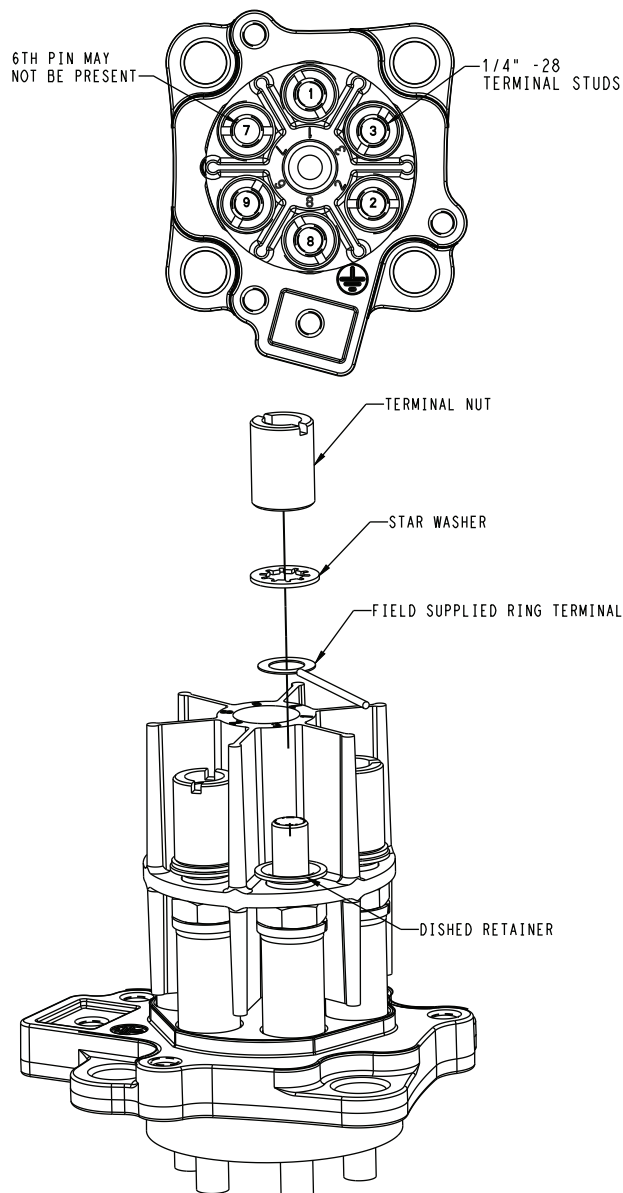

Fig. 14 — Terminal Plate Wiring Connections
2. With screwdriver, remove terminal nut and star washer only on terminals needed to make connections applicable to installed overload system. Leave dished retainer in place. See Fig. 14.
3. Apply all applicable power and control circuit leads to the terminal studs per associated overload wiring diagram. Reassemble star washers and extended slotted terminal nuts. See Fig. 14.